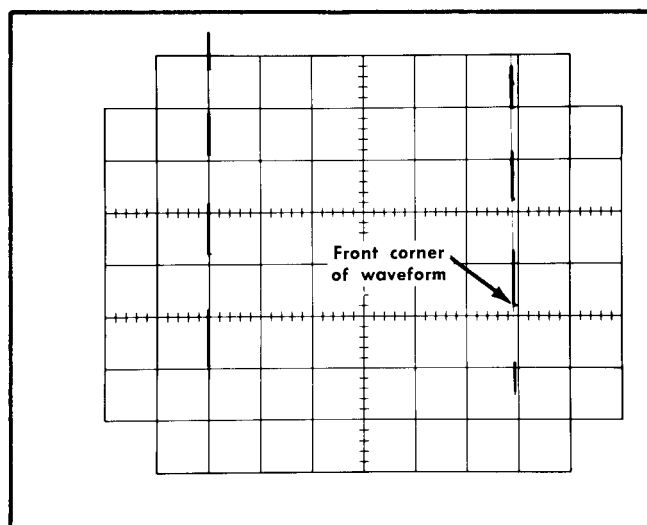

Fig. 5-10. Typical display, External Horizontal Amplifier Compensation check.
b. Check—Front corner of waveform should be similar to Fig. 5-10, showing no more than 3% overshoot, rolloff, or ringing.
d. Check—Front corner of waveform similar to Fig. 5-10, and showing no more than 3% overshoot, rolloff, or ringing.
- b. Check—Front corner of waveform similar to Fig. 5-10, and showing no more than 3% overshoot, rolloff, or ringing.
- e. Check—Front corner of waveform similar to Fig. 5-10, and showing no more than 3% overshoot, rolloff, or ringing.